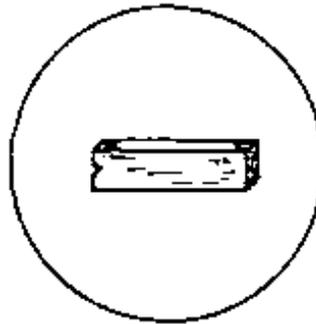

Fig. 1a
**If no compass is available, a small wooden block can be used instead (Fig. 1a). The pencil is held in the notch at one end and the other end is moved along the surface of the wall.**